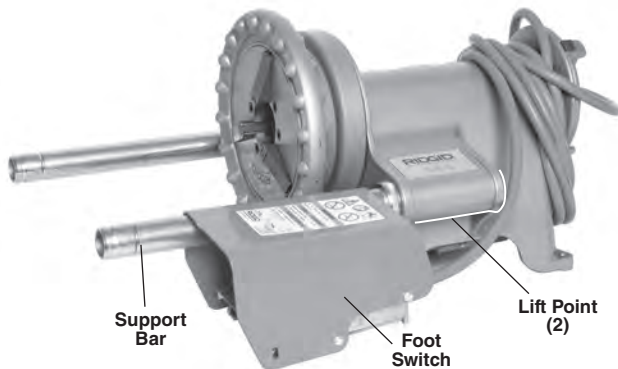

Figure 26 – Machine Only Prepared for Transport
- Coil up the power cord and slide foot switch cover over one support bar as shown in *Figure 26*.